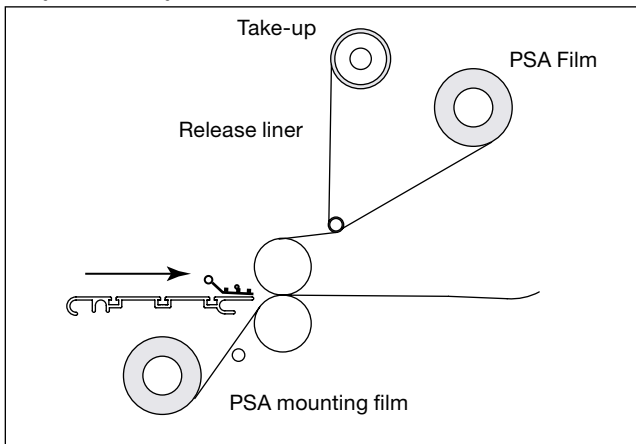

Fig. 6-13. Laminator Loaded for Decaling the First Pass with Film (Poly-in Shown).
1. Load the laminator as shown in “Fig. 6-13. Laminator Loaded for Decaling the First Pass with Film (Poly-in Shown).”.